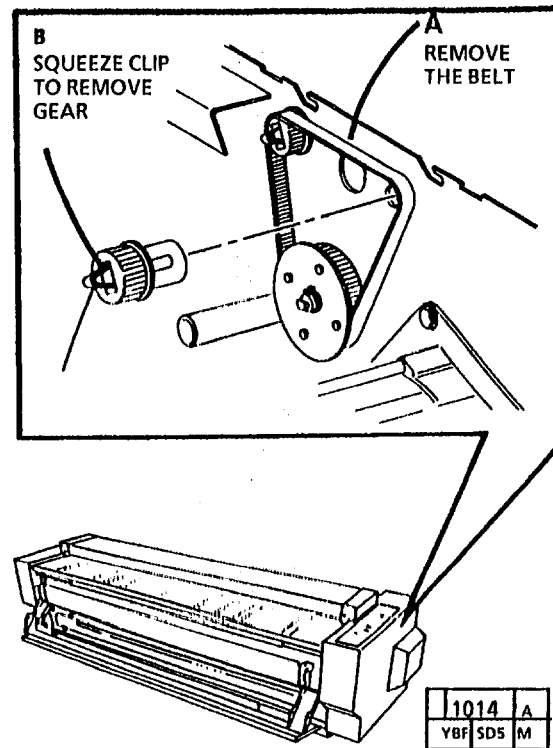

Figure 1. Removing the Drive Gears
5. (Figure 1): Remove the drive gears.